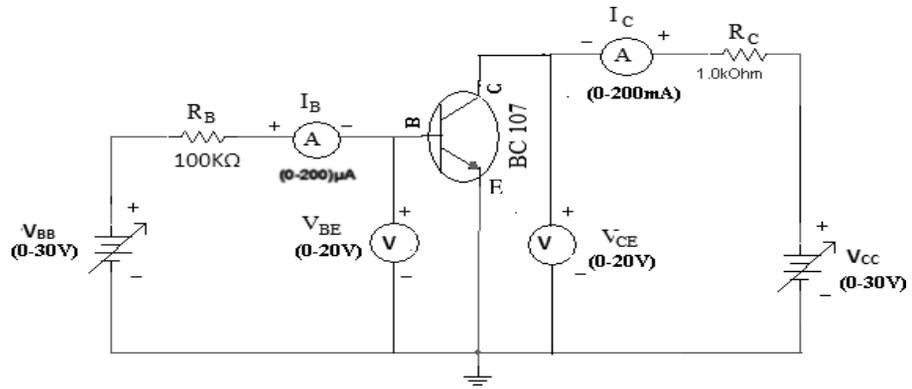

Figure 16.1: Circuit diagram of BJT in CE mode.
- Connect the circuit as shown in Figure 16.1